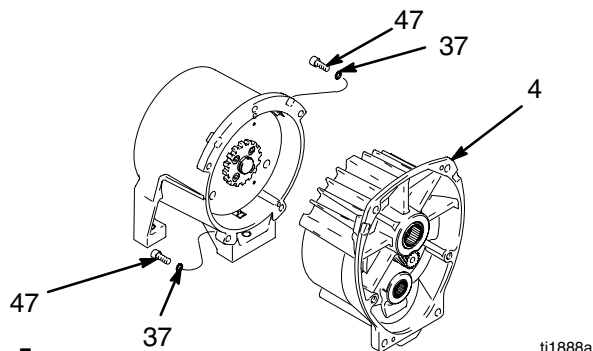

Fig. 5
4. Fig. 5. Remove five screws (47) and lockwashers (37) and pinion assembly (4).